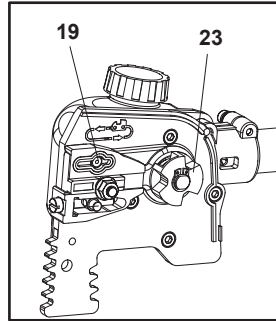

Fig. 62
1. Disassemble the guide bar (14) and saw chain (15) in reversed order from assembly.
2. Check the oiling port (19) for clogging and clean if necessary to ensure proper lubrication of the guide bar and saw chain during operation. Use a soft wire small enough to insert into the oil discharge hole (Fig. 62).